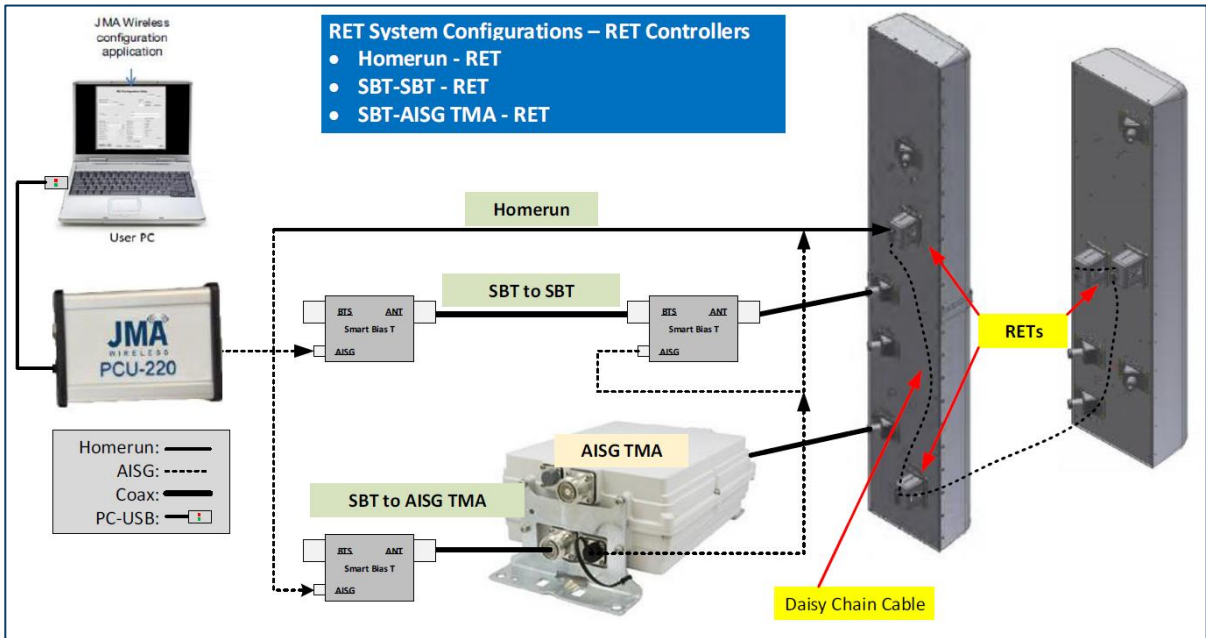

Fig. 12– RET system connection diagram
- Follow the connection diagram in Figure 12 which shows the various RET system diagram connections to the PCU-220 controller and PC.